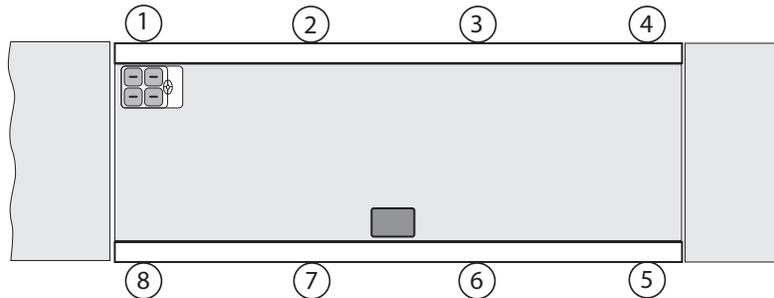

Figure 7-2. Trimming Load Cell Number One
1. Park the cart as close as possible to Side 1 (being trimmed) with the wheels centered over the end load cell mount (Number 1 in Figure 7-2); record the indicator reading; remember that the scale is still uncalibrated, so the indicator readings are simply raw counts rather than weight units